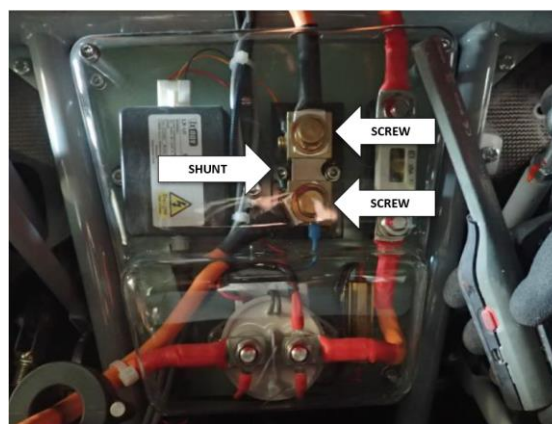

Figure 1 - Affected Screws Location
Occurrences were reported of brass screws fixing cable to a shunt between the negative pole of the Front Electric Sustainer (FES) battery and the controller (see Figure 1) that have torn off, possibly due to excessive tightening torque used in maintenance.
- Inspect if FES wiring is assembled with the affected brass screw(s) (see Figure 1).